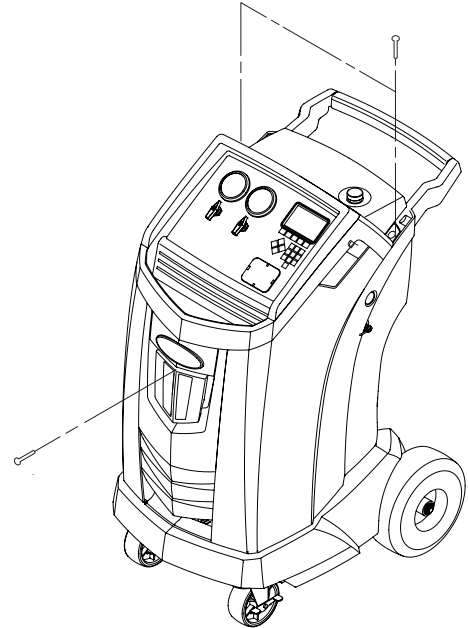
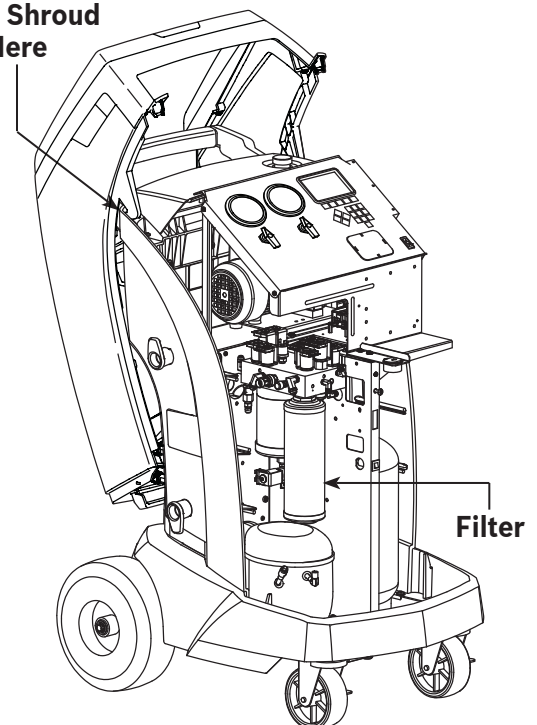

Figure 6
Figure 7
Note: Access to SD card slot may require removal of shroud. See Figure 7 on page 23.
Turn off the machine. Remove the oil drain bottle. Remove the screws holding the shroud. See Figure 6.
3. Hang the shroud on the back of the machine as shown in Figure 7.
6. Install the new filter by threading it clockwise into place. Verify the filter is positioned correctly as shown in Figure 7. Tighten the filter to 20 Nm.
3. Remove and store shroud as shown in Figure 6 and Figure 7.
3. Remove the screws holding the shroud. See Figure 6.
4. Hang the shroud on the back of the machine as shown in Figure 7.